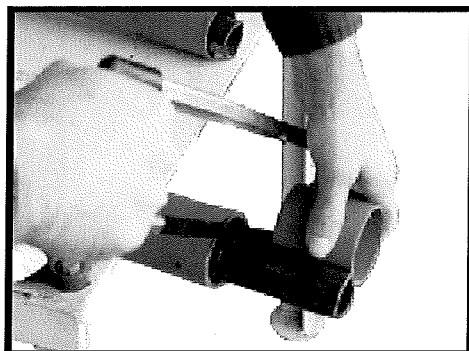

Figure 2
STEP 2 Using cut section of the shield as a guide cut shaft off the same amount. (Figure 2)